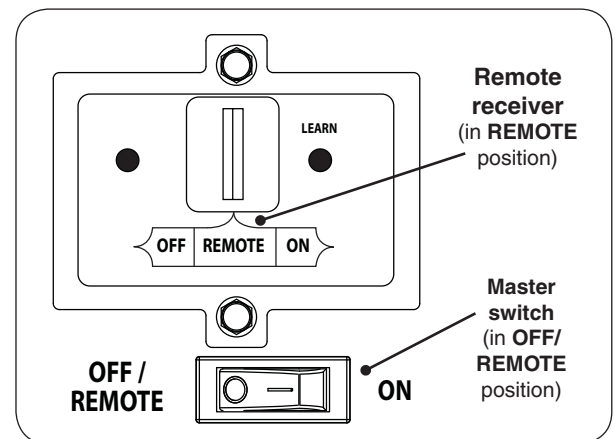

Fig. 39-1 Control panel detail
1. Ensure the master switch is in the **OFF/REMOTE** position (see Fig. 39-1).